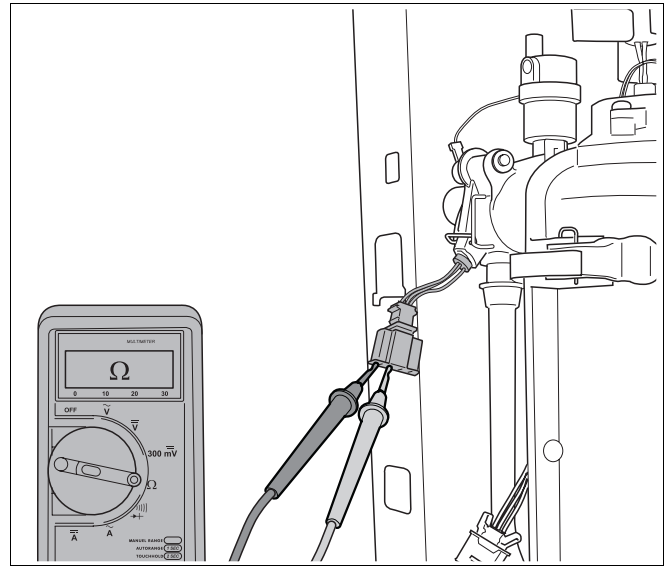

fig. 82 Measure resistance of bi-sensor
- Measure the resistance of both parts of the bi-sensor (→ fig. 82).